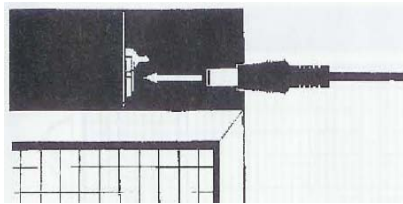

Figure 3
- 7) Plug the power cord into the air cleaner once it is securely in place (fig 3).